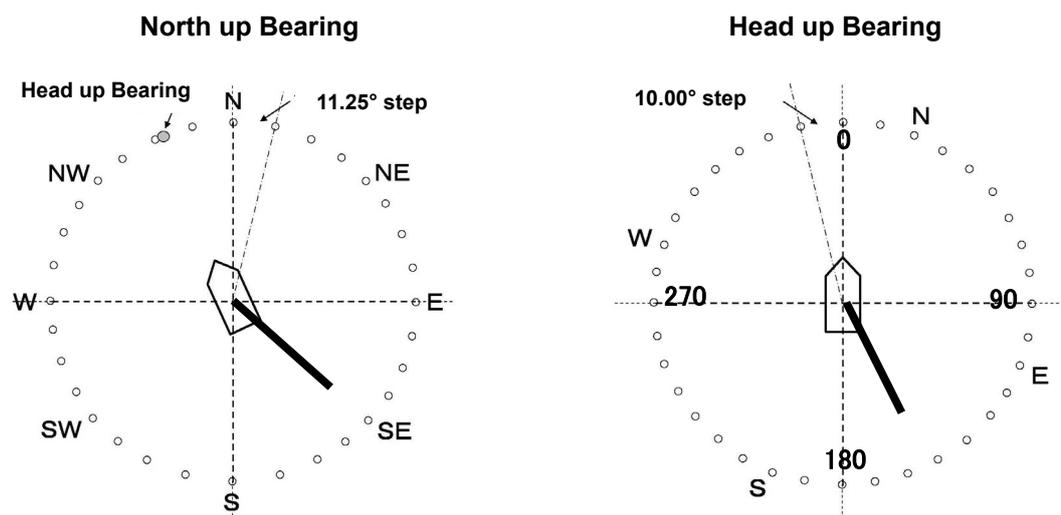

Fig. 4.1.2 North up Bearing and Head up Bearing Graph Display
North up bearing: True north (N) is fixed on the top of screen. The direction of hull, current speed and ship speed vector are displayed on the bearing board in 32 point bearing (*2). The hull is turning to NNW (337.5°/compass bearing) in the example of Figure 4.1.2.
Head up bearing: The ship head is fixed on the top of screen. North, south, east, and west, current speed, and the ship speed vector are displayed on the bearing board of 360°. As 0°, the direction of starboard 22.5° is true north (N) in the example of Figure 4.1.2 as for the ship head.
*4 When it is made the head up bearing standard, the current of SE(135.0°) (the head up bearing 337.5°) becomes 157.5°=158° by Figure 4.1.2 North up Bearing Standard.